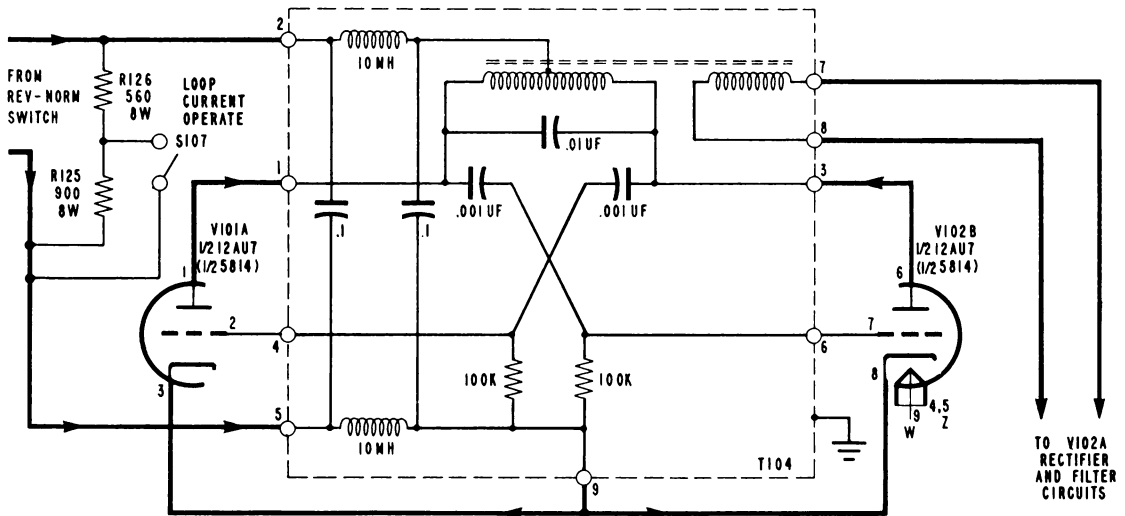

Figure 2-4. Schematic Diagram of 15 kc Loop Oscillator Keying Circuit
b. 15 KC LOOP OSCILLATOR CIRCUIT. - As shown in figure 2-4, the 15 kc loop oscillator consists of a push-pull tuned plate oscillator. The plate voltage for the 15 kc oscillator is obtained by utilizing the voltage drop produced across resistors R125 and R126 during marking pulses in the loop circuit. Resistors R125 and R126 are in series connection on twenty to forty ma loop current and R125 is shorted out by LOOP CURRENT OPERATE switch S107 on fifty to seventy ma loop current operation. The 15 kc voltage output from the oscillator is obtained by transformer action from the tuned coil. All the components and circuitry of this stage are hermetically sealed in a metal case to prevent radio frequency radiation.